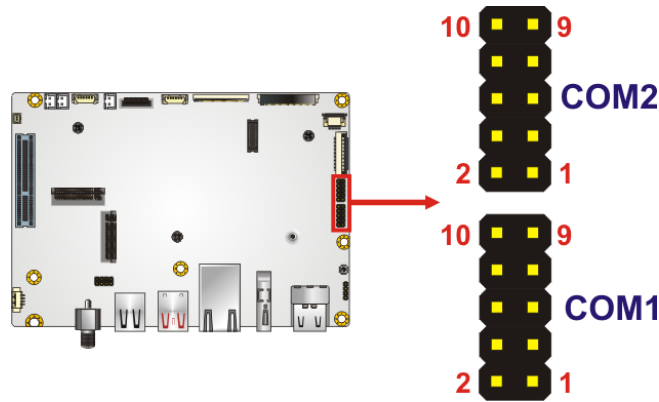

Figure 3-16: UART Connector Locations
- CN Location:** See **Figure 3-16**